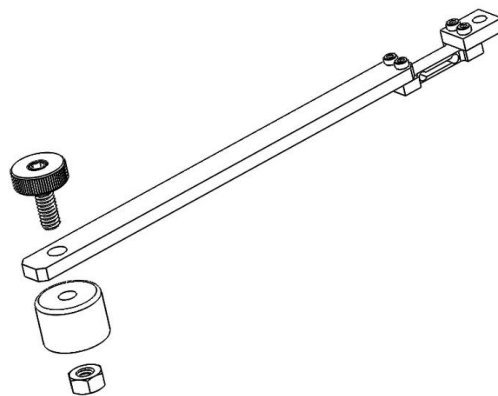

Figure 5: Assembly of Buoyancy Cap to Load Cell Extension
4. Attach the buoyancy sample cap to the unthreaded hole of the load cell extension with one of the 5/8" thumbscrews and the hex nut. See Figure 5. **Handle the 100g loadcell carefully. It is fragile and can be easily damaged.**